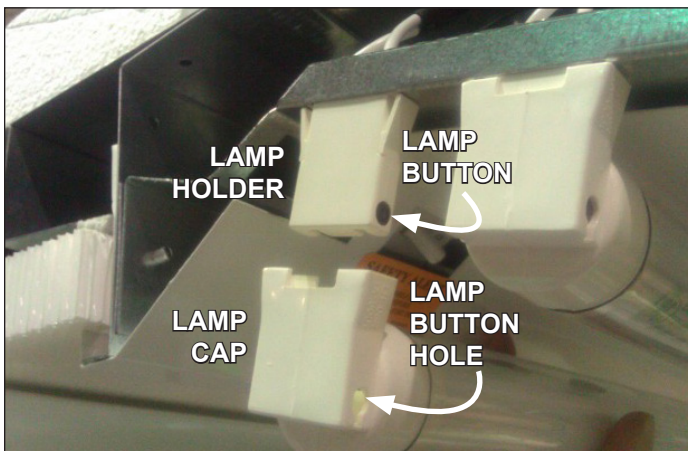

Fig. 16 Remove old T-8.
1. Simultaneously pull down at both ends of the old T-8 light to remove from the lamp holder (Fig. 16). Remove the lamp caps and plastic shield from the old light, then discard the light.